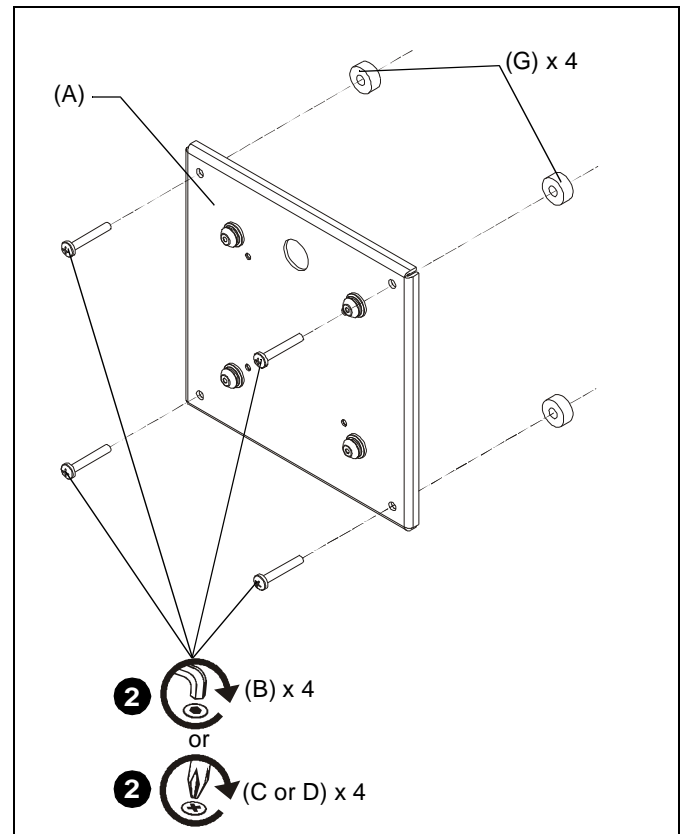

Figure 2
2. Attach interface bracket (A) to back of display using four M6 x 20mm button head cap screws (B) or four M6 x 25mm Phillips head cap screws (C) or four M6 x 40mm and four spacers (G). (See Figure 2)